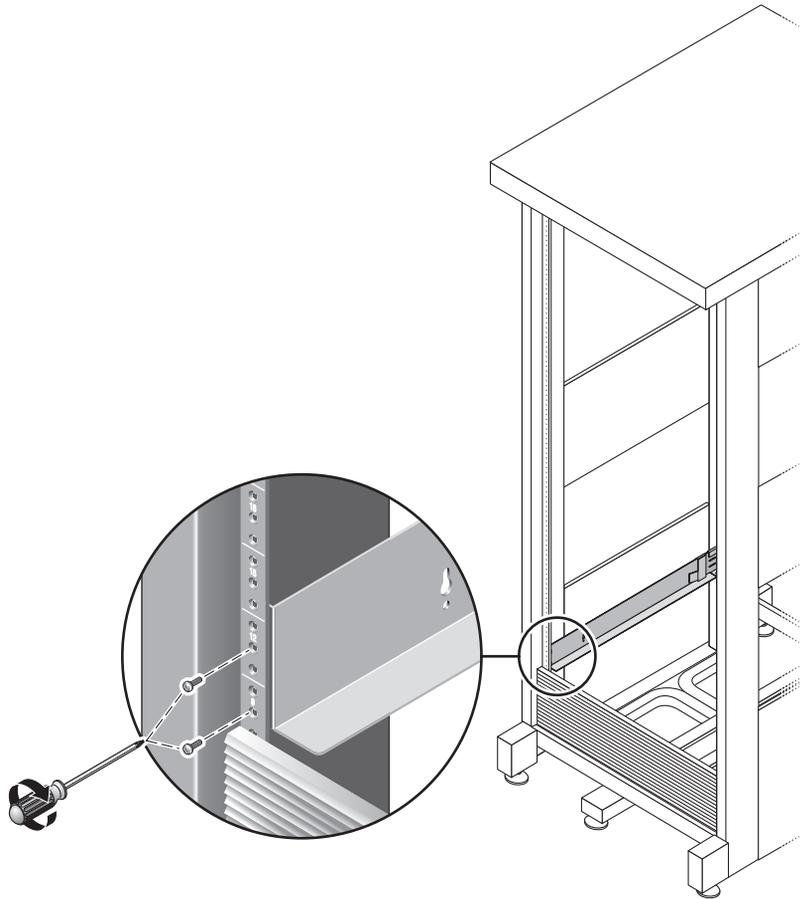

FIGURE 2-9 Securing the Left Rail to the Front of the Cabinet
- Using the #2 Phillips screwdriver, insert and tighten two 8-32 screws to secure the the left rail to the front of the cabinet (FIGURE 2-9). Repeat for the right rail.